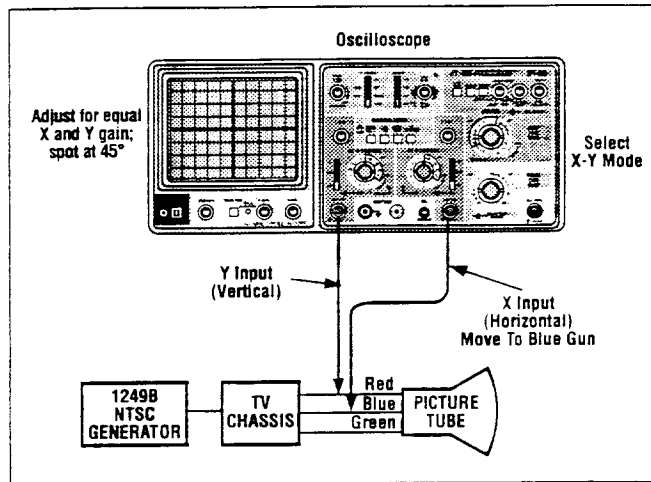

Fig. 6. Using a Conventional Oscilloscope as a Vectorscope, step 2 (set-up).
5. Leave the vertical (Y) input connected to the red gun but move the horizontal input to the blue gun as shown in Fig. 6.